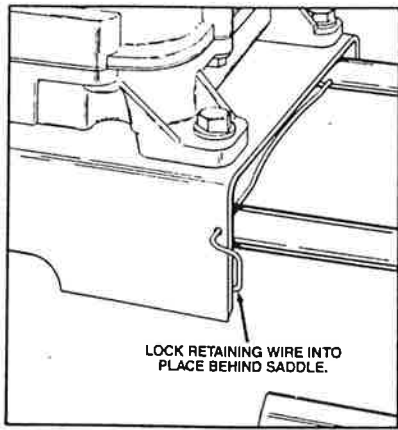

Fig. 5
3. Grasp the retaining wire hook. Turn it clockwise while pushing in until the hook slips behind the saddle (Fig. 5, pg. 8). This will lock the wire in place.